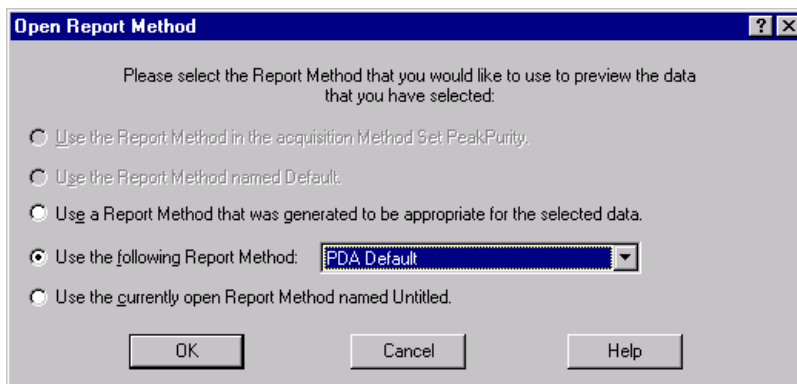

Figure 5-2 Open Report Method Dialog Box
3. Select the data you want to print, then click  (**Preview**) or select **Tools > Preview/Publisher** to open the Open Report Method dialog box (Figure 5-2).